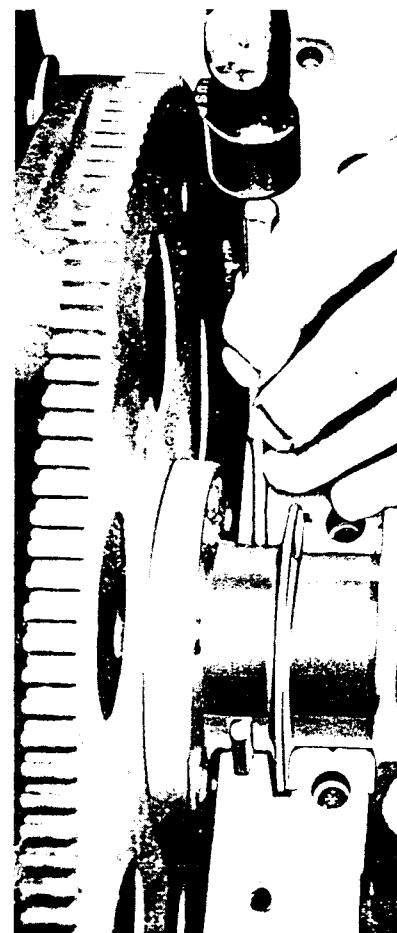

Figure 8-1-48
3. To replace the upper half of the seal, use a small hammer and brass pin punch to tap one end of seal (see Figure 8-1-48) until it protrudes far enough to be removed with pliers.